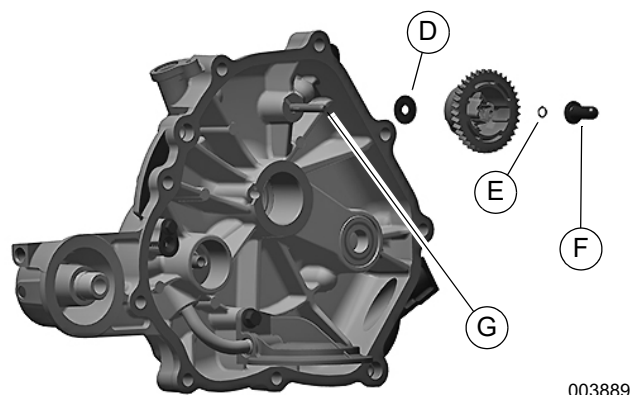

Figure 14-33. Install Internal Governor
- See Figure 14-33. Slide governor washer (D), governor gear assembly, retaining c-clip (E), and governor spool (F) over governor shaft (G).